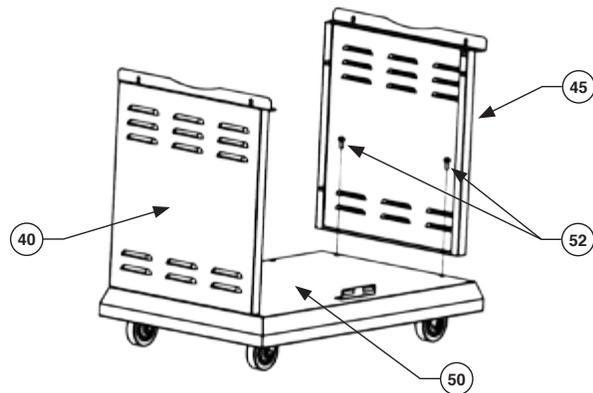

FIG 2
2. Secure Right Plate (45) on the Platform (50) with $\frac{1}{4}$ -20* $\frac{1}{2}$ Bolt (52). As shown in FIG 2.